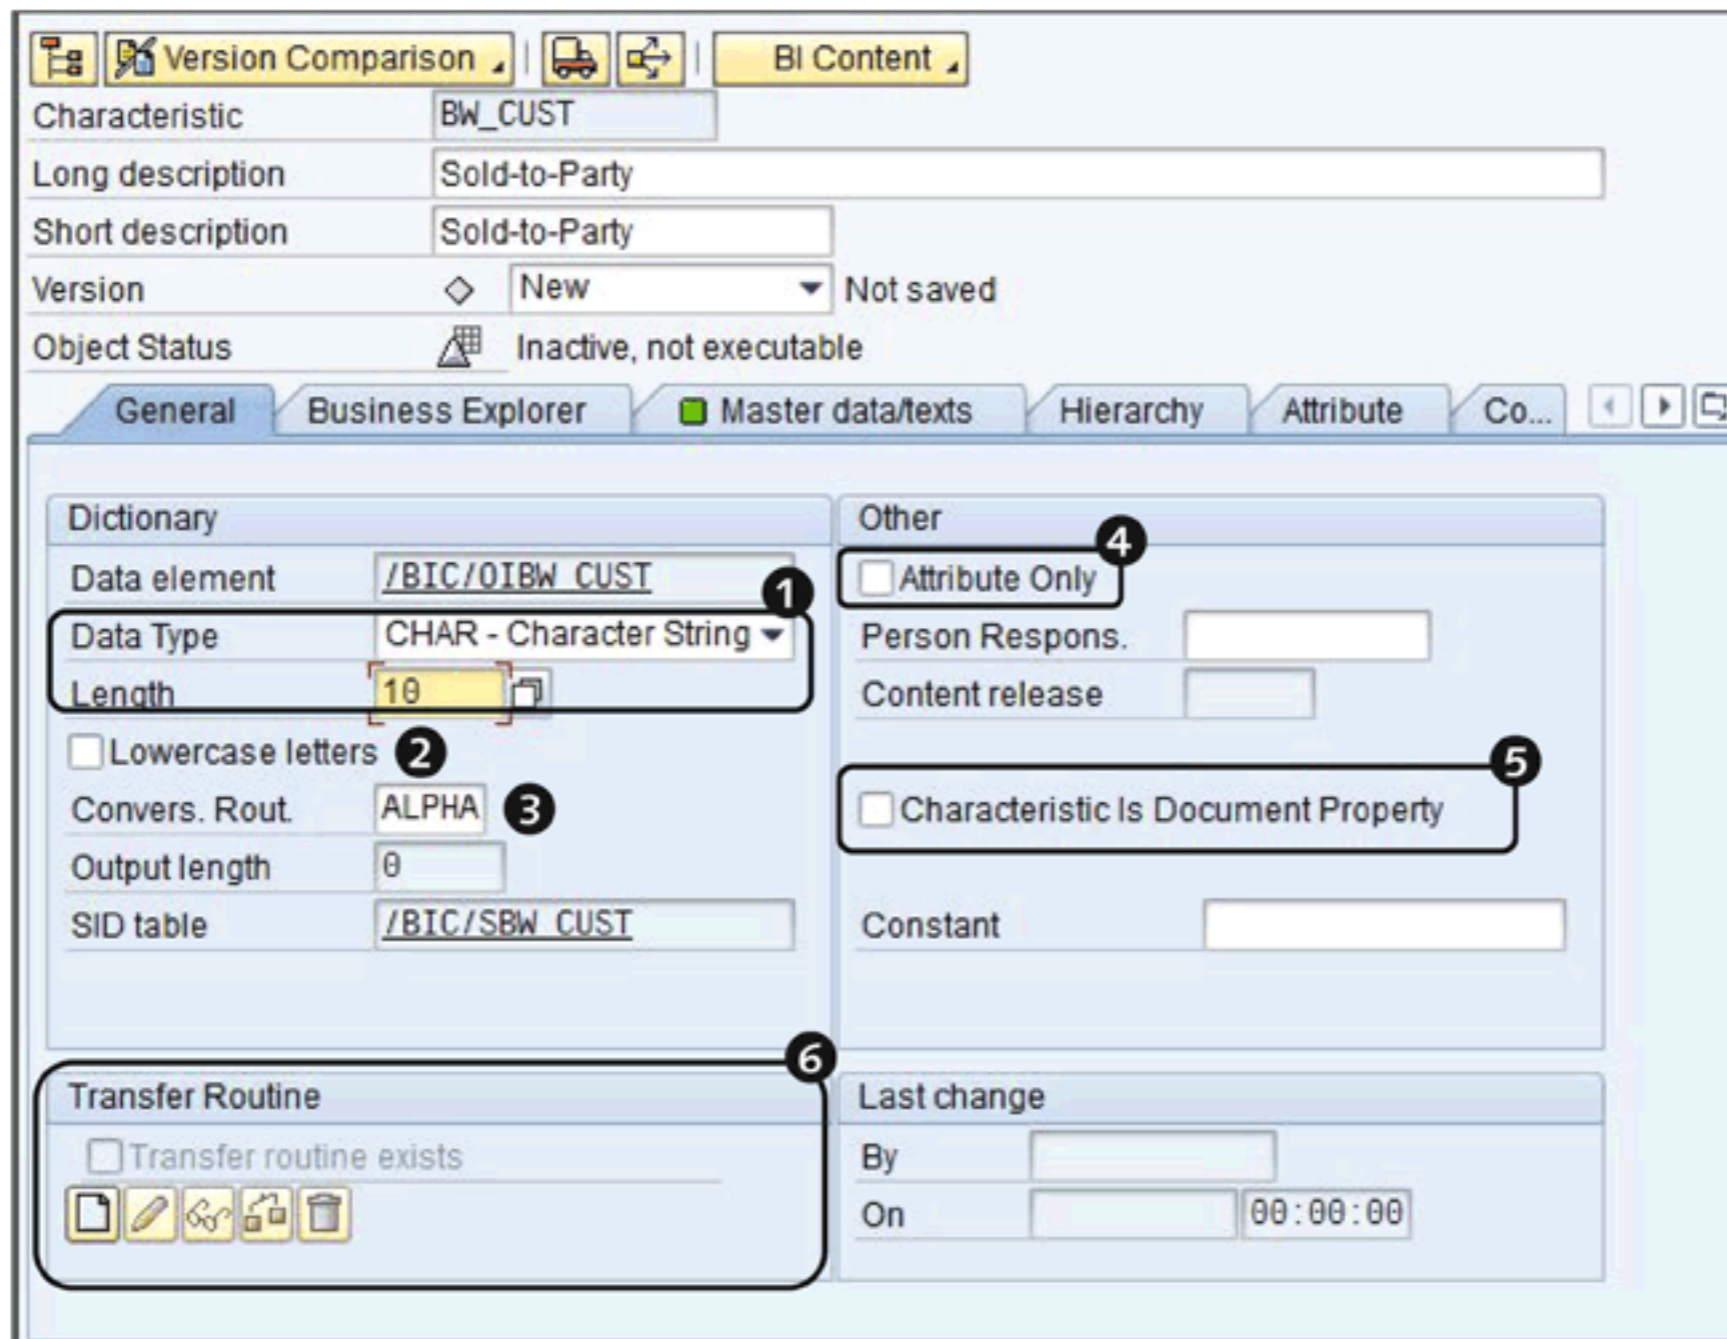

Figure 3.13 General Tab
In our example, the InfoObject stores characteristic customer IDs that are ten characters in length. Using this information, configure the DATA TYPE and LENGTH fields shown in ❶ of Figure 3.13.
Let's briefly discuss the rest of the settings in the GENERAL tab, as shown in Figure 3.13: